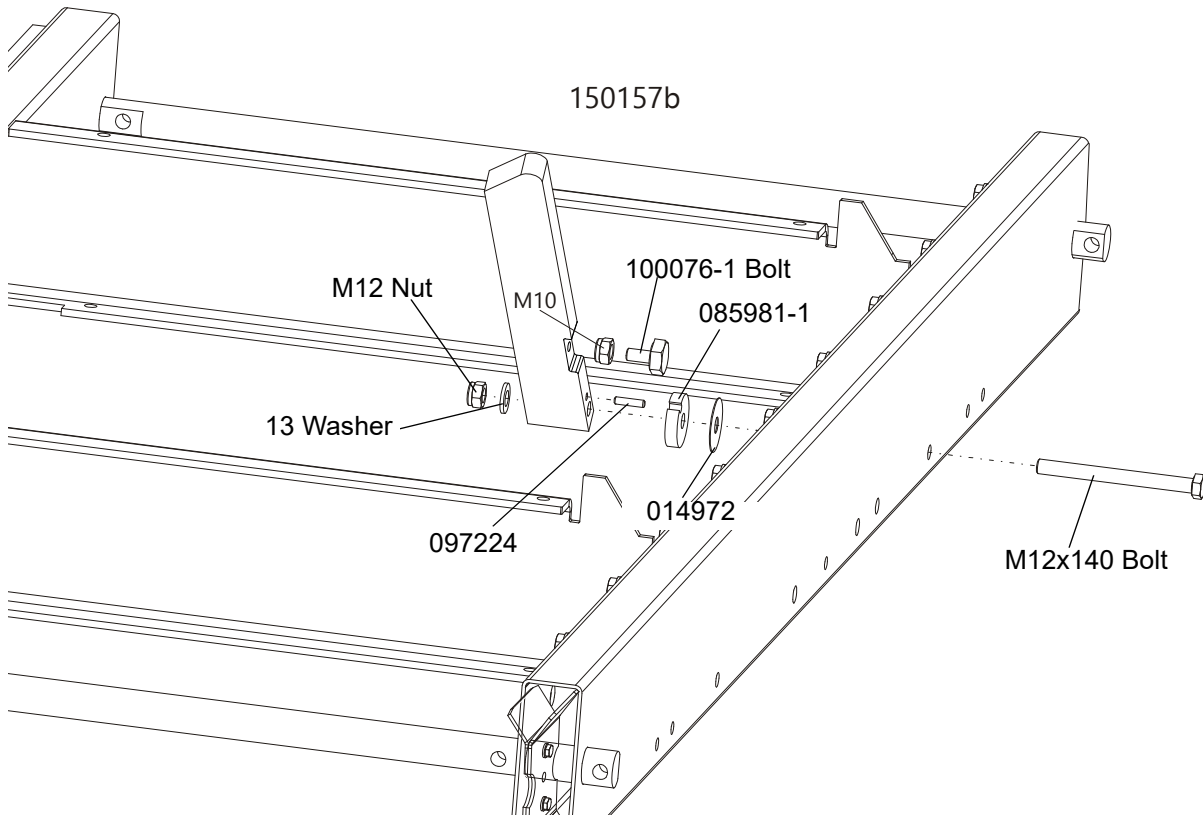

FIG. 2-8
8. Install the log side supports as shown in Figure FIG. 2-8. Tighten the nuts so that the side supports can be moved with little resistance. Adjust the side supports. See Section 6.11.
See Figure 2-8.